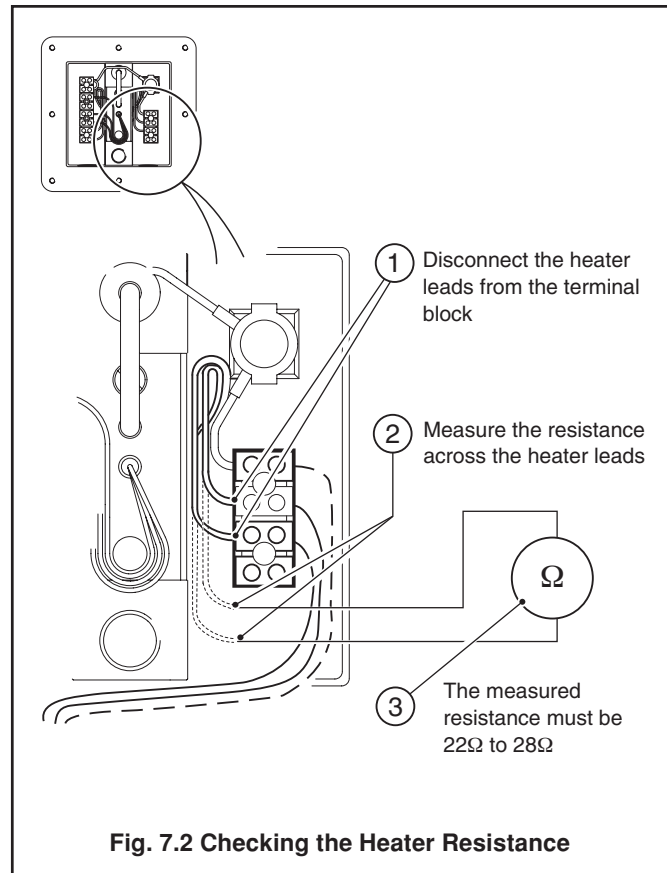

Fig. 7.2 Checking the Heater Resistance
### 7.1.2 Checking the Heater Resistance – Fig. 7.2
- b) Check the resistance of the probe heater as described in Fig. 7.2.